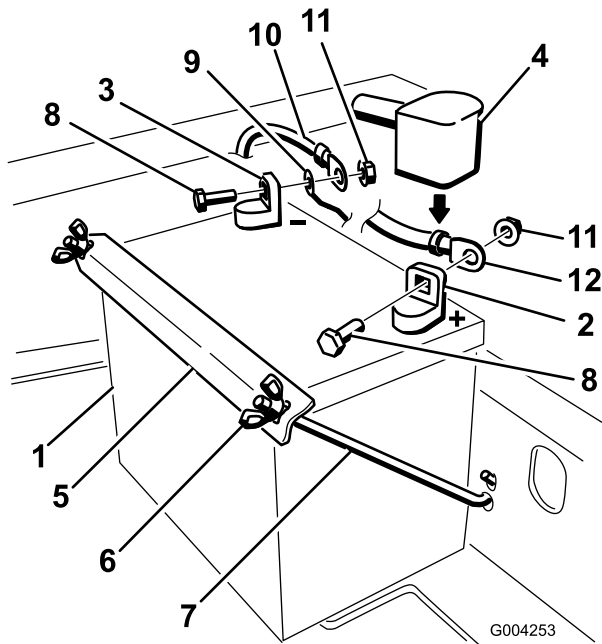

Figure 36
4. First disconnect the negative battery cable and ground wire from the negative (-) battery terminal (Figure 36).
5. Slide the red terminal boot off the positive (red) battery terminal. Then remove the positive (red) battery cable (Figure 36).
- Remove both wing nuts (1/4 inch) securing the battery clamp (Figure 36).
- Position battery in the tray with the terminal posts toward the engine (Figure 36).
- Secure the cables with 2 bolts (1/4 x 3/4 inch), 2 washers (1/4 inch), and 2 locknuts (1/4 inch) (Figure 36).
- Secure battery with J-bolts, hold down clamp and 2 washers (1/4 inch), and 2 wing nuts (1/4 inch) (Figure 36).